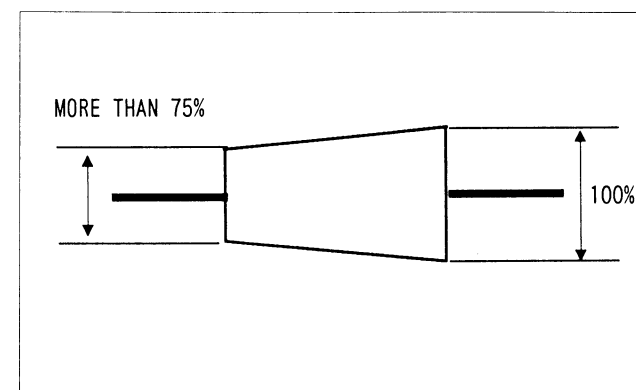

Fig. 1-3
- 1) Play alignment tape (FM6-N) for tracking, confirm the supply side waveform. In case that the waveform is not about flat (Fig. 1-3), adjust it according to below method.
- 2) Adjust the supply side waveform to be more than 75% by turning the No. 6 Guide every 90° clockwise. If turning clockwise cause the waveform to reduce, perform same adsutment by turning counterclockwise. (Fig. 1-3)